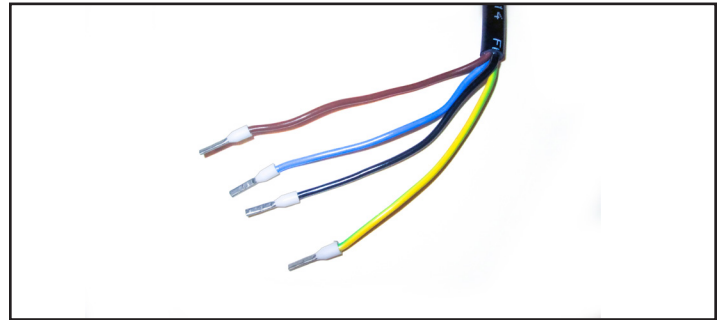

Fig. 1. The four fan motor wires and wire sleeve.
1. Locate the black EBM wire sleeve containing **black**, **brown**, **blue**, and **green/yellow** wires. See fig. 1.